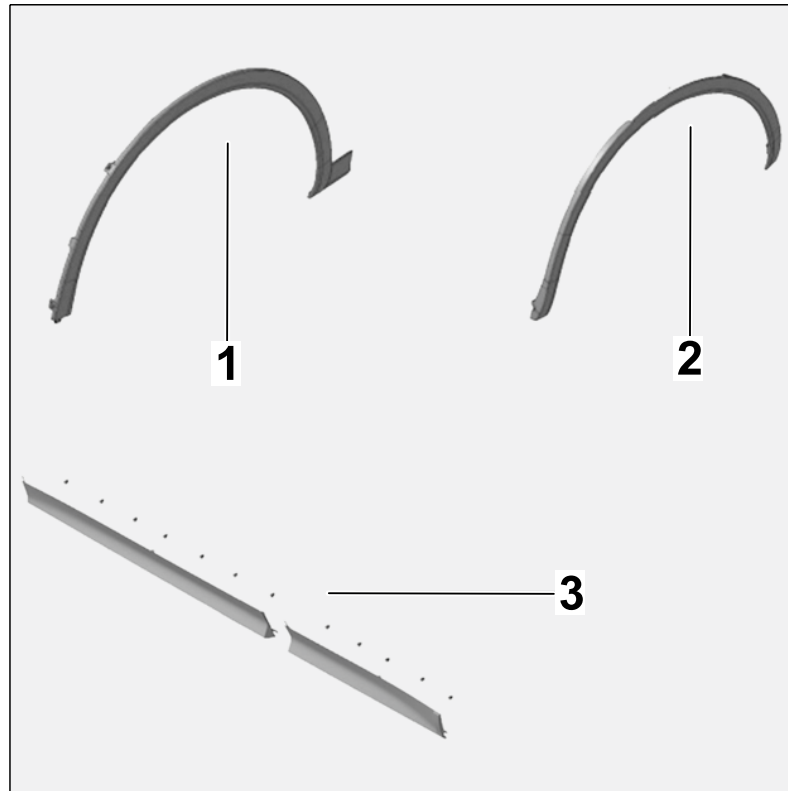

Figure 3
- 4.1 Remove and install door trim panels and wheel arch trims ⇒ *Figure 3*.